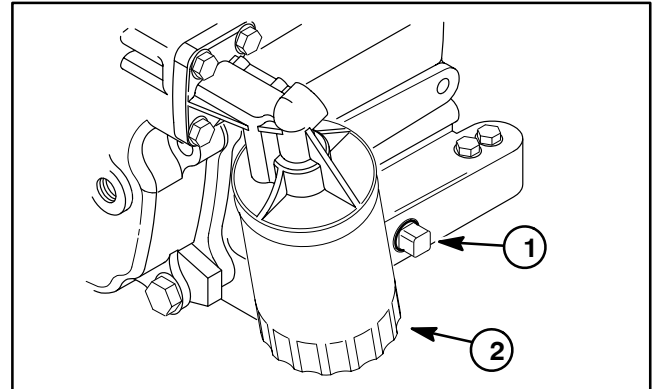

Figure 7
5. Remove drain plug and let the oil flow into a drain pan. When the oil stops, reinstall the drain plug (Fig.7).
2. Remove existing oil filter (Fig.7). Apply light coat of clean oil to the new filter gasket.